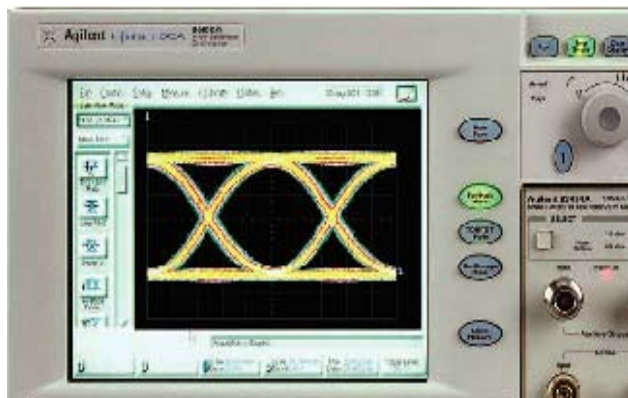

Figure 14. The Eye Diagram through the Signal Analyzer
- Verify on the signal analyzer that the eye diagram looks as shown in *Figure 14*. Make sure that the eye width is equal to 1-bit period.